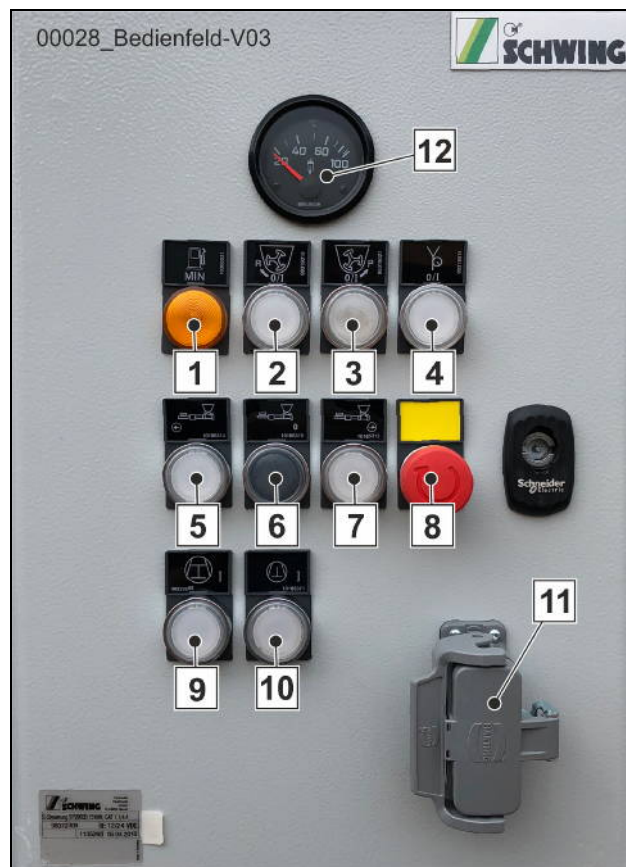

Fig. 2
- Switch off the water pump using the button (9; Fig. 2).